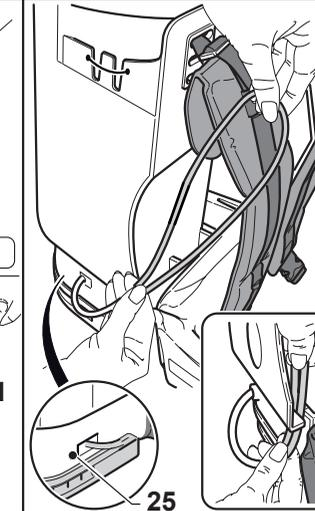

Fig. 9
- Hook the rigid extensions (11 Fig.9) to the ergonomic handle (10 Fig.9) of the flexible pipe.
- Hook the accessory required (suction inlet, brush, crevice tool, etc.) to the rigid extensions (11 Fig.9).